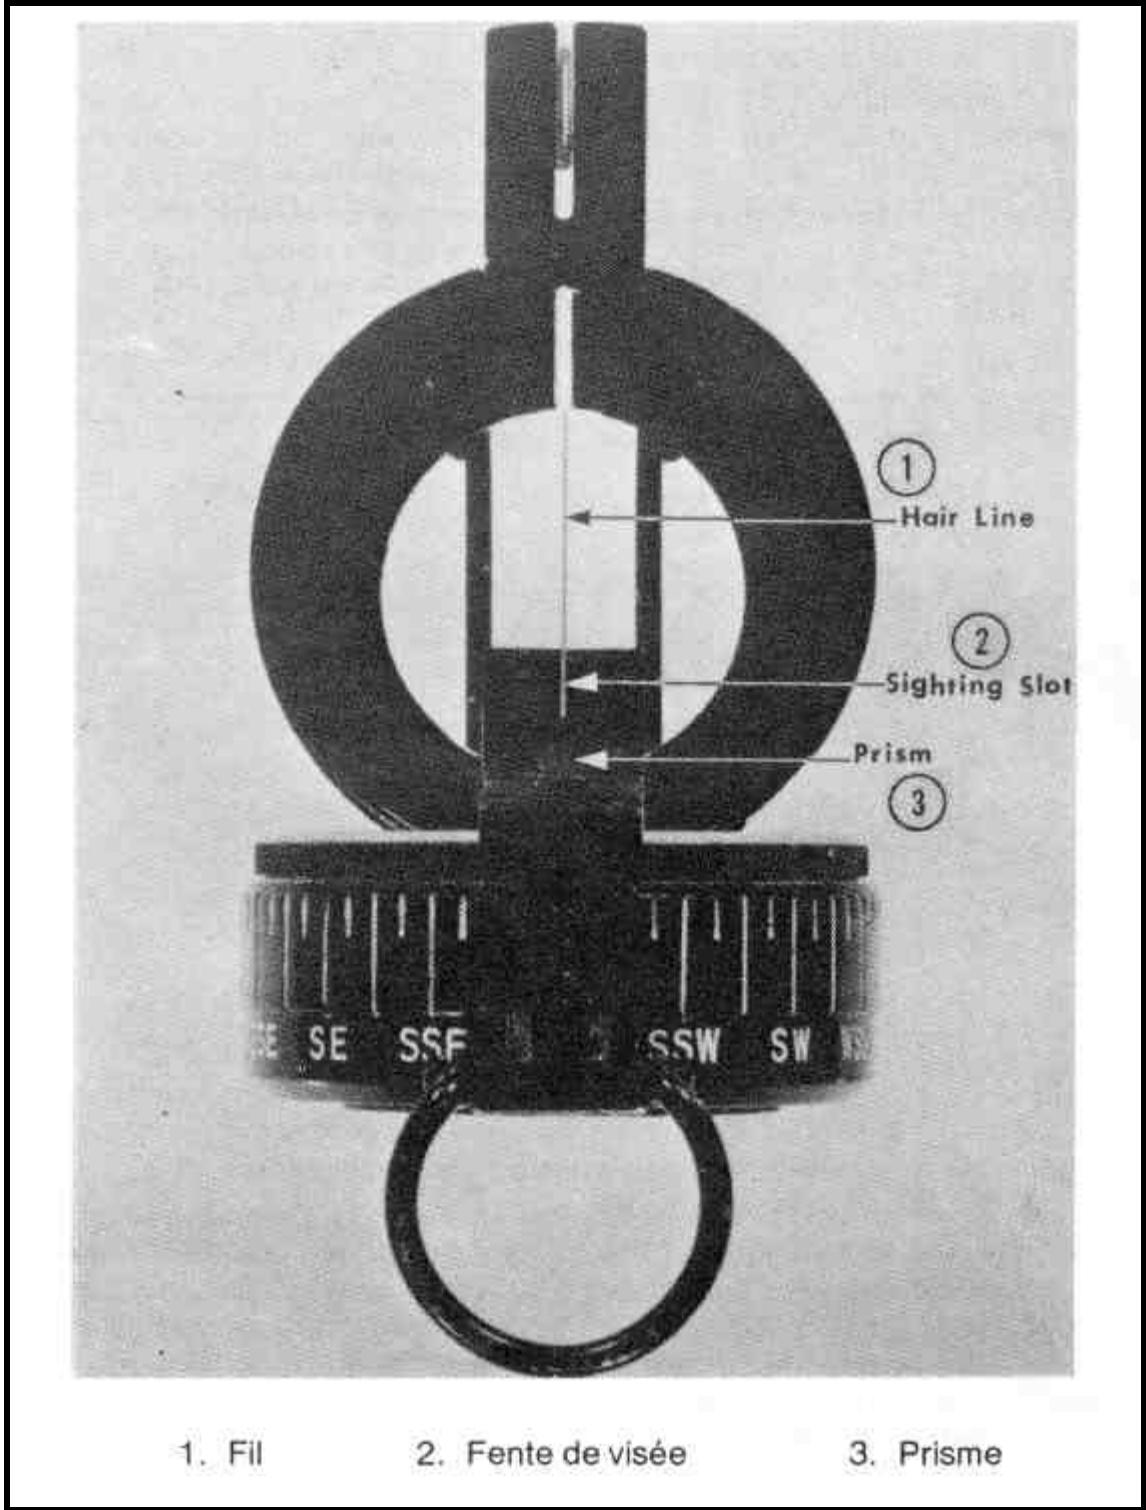
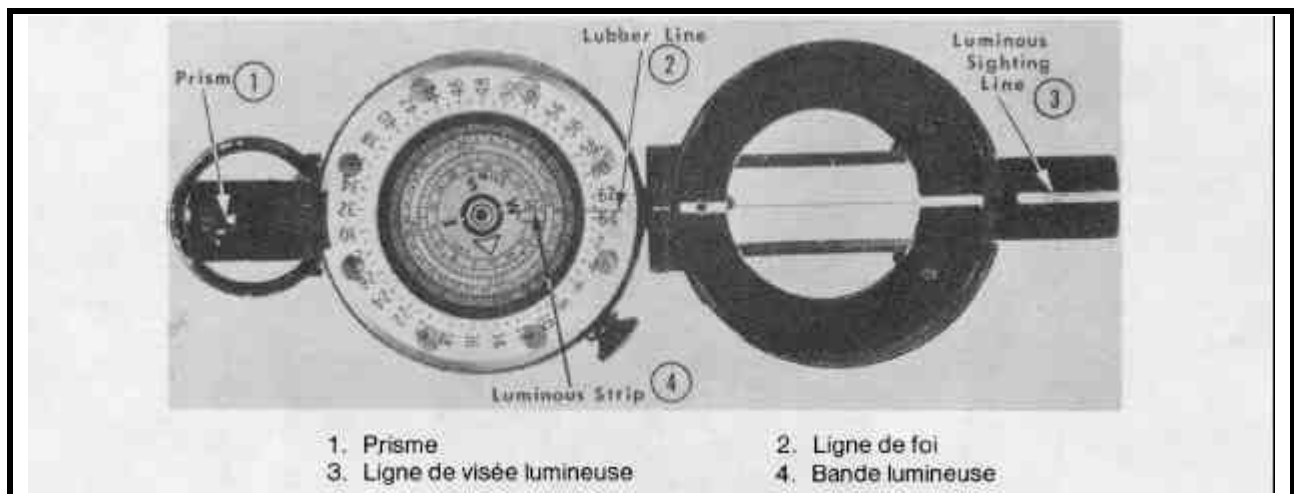

Figure 8-1 Prismatic Compass Open for Reading Through the Prism
Figure 8-2 Prismatic Compass Opened Out
1. The Prismatic Compass is one of the principal compasses employed in the Forces. It is illustrated in Figures 8-1 and 8-2, but to understand this section fully, it should be read with a compass at hand. Figure 8-1 shows the compass opened for reading through the prism. Figure 8-2 shows the compass out flat.
4. On the white ring below the black figures of the upper glass cover there is a black line on a luminous patch opposite the centre of the lid hinge. It is extended by a hair line on the lower glass cover reaching to the inner circle on the compass card. This is called the lubber line. Inside the lid the lubber line is further extended by the hair line on the glass of the lid, and by a luminous line reaching to the end of the tongue where there is a notch. On the outside of the ring attached to the box, and by which it may be held, is another luminous notch. When the compass is opened out flat as in Figure 8-2, all these lines and notches are in a straight line passing through the centre of the compass card; this line marks the axis of the compass.
6. Opposite the hinge and covered by the tongue on the lid when the box is closed is a small triangular block which contains the magnifying prism. When the box is open, it can be turned over the glass into the reading position shown in Figure 8-1. This figure also reveals the eyehole and the sighting slit above it. When one looks through the eyehole one sees the magnified figures of the outer circle of the compass card. The prism may be raised or lowered on its slides to get the best focus. On the bottom of the box inside, directly below the prism, is a luminous patch against which markings on the compass card can be read at night.
1. Hold the compass steady in both hands with a thumb through the ring. The lid must be vertical and the prism turned over in the reading position (see Figure 8-1). The compass must be held level so that it can swing freely.
4. To employ such a pre-set compass by night, open it out flat as illustrated in Figure 8-2, and turn it until the north point on the card coincides with the luminous strip on the glass cover. (The brilliance of these luminous points may be increased by exposure to light.) The axis is then on the required bearing. Sight along the axis and select an object to march on. If need not be directly on the bearing, you can estimate how much right or left of it to move.